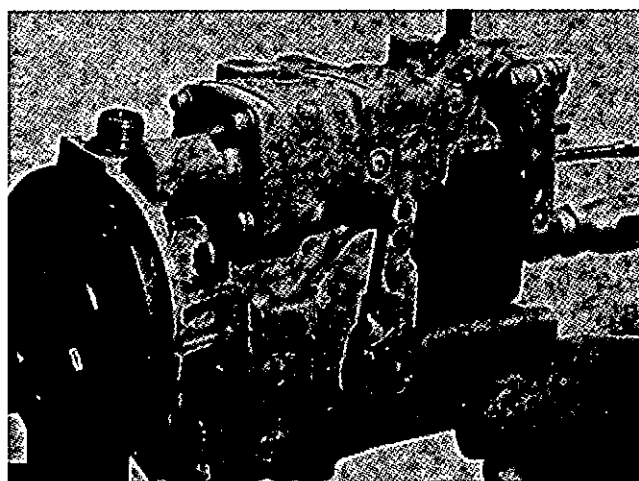

Fig. 10-43, (F5379). Adjust the fuel adjustment screw inside the throttle shaft.
6. Adjust the fuel calibration pressure to the "Calibration Pressure @ rpm and Flow" on lines 15 and 16 of the calibration tables. Adjust the fuel adjustment screw inside the throttle shaft, Fig. 10-43.